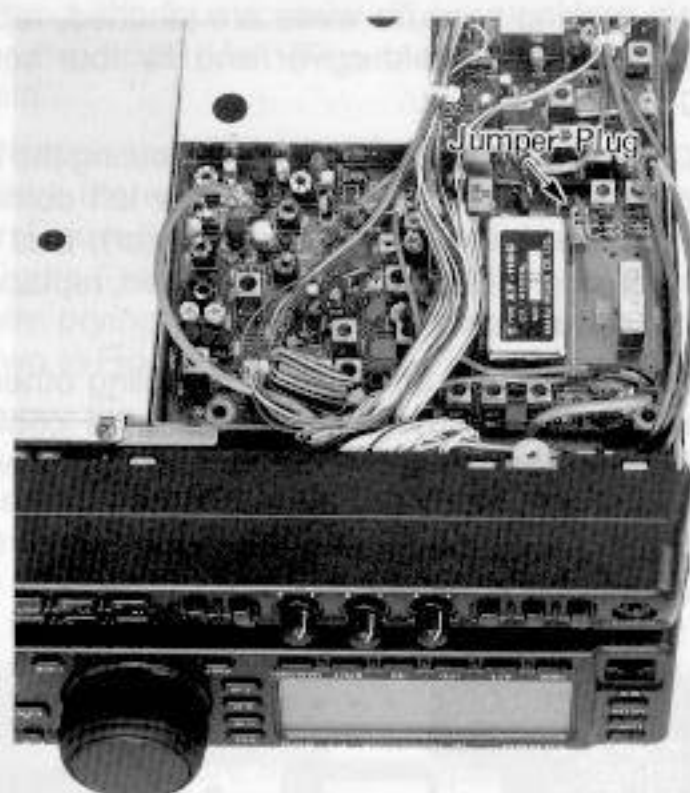

Figure 10
- Refer to Figure 10; replace the ribbon cable into its connector, and press down firmly on both sides of the socket while pressing the ribbon cable into the socket. Confirm that it is firmly in place.
- Referring to Figure 10, determine the location of the filter(s) you are installing (the XF-110C and XF-110CN cannot both be installed, as they use the same mounting location). If installing either filter for CW narrow, remove the jumper plug.